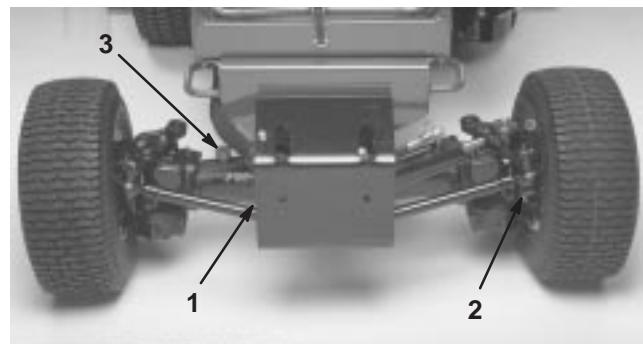

Figure 27
2. Remove check plugs from axle and make sure lubricant is up to bottom of each hole. If level is low, remove fill plugs and add enough lubricant to bring the level up to the bottom of the check plug holes (Fig. 27).